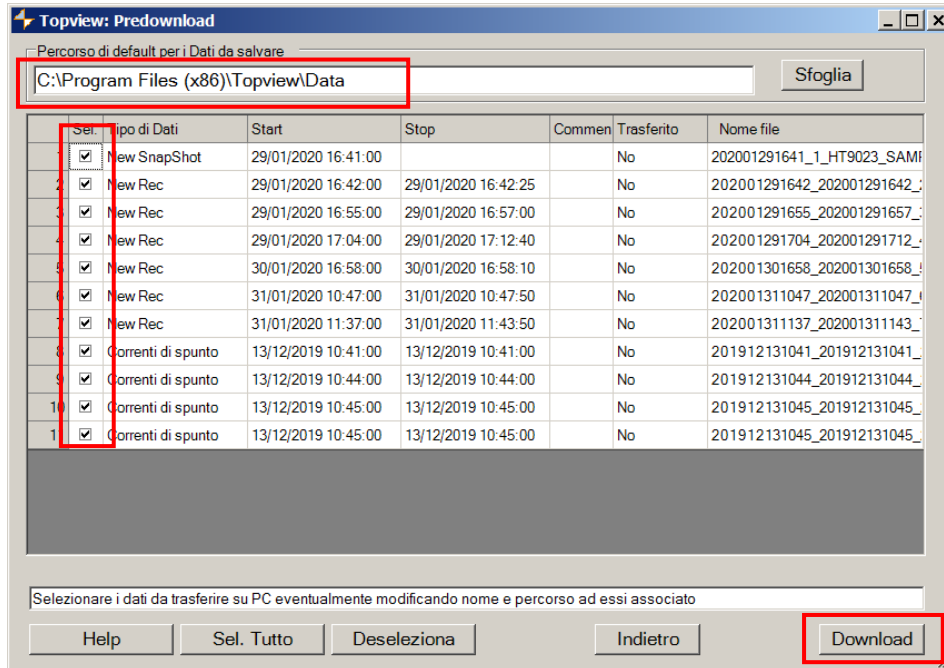

Fig. 17: Selection data for download
7. Click on the “**Next**” button to open the download window (see Fig. 17). Check the measurements you want to download, choose the path where you want to save them and click on the “**Download**” button to start the transfer